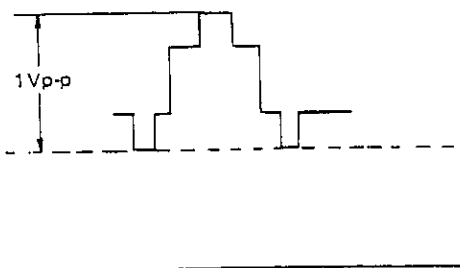

Figure 43
2. Apply colour bar signal (stepped signal) to the set. Observe the output of TP-401 on the oscilloscope (internal trigger) and adjust R204 (EE level control) so that the resultant waveform will be as shown in figure 43.